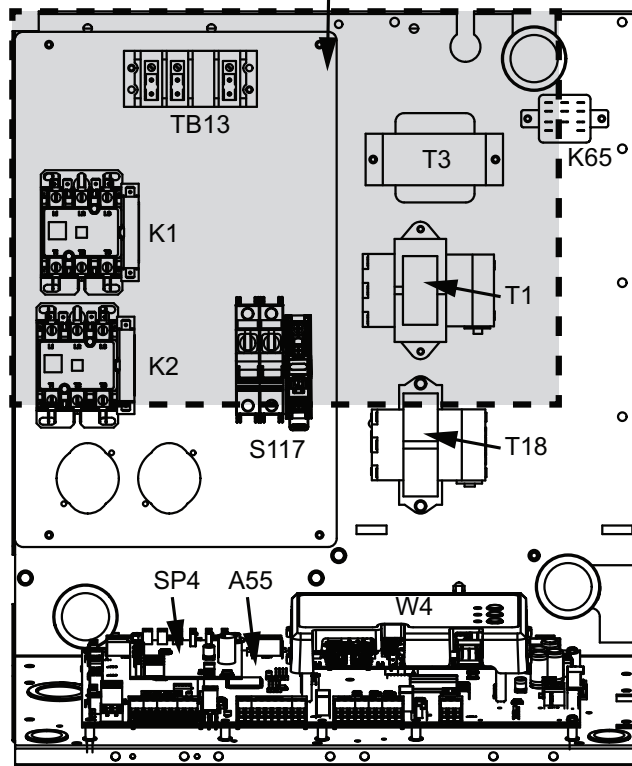

Figure 3
All use a single line voltage to 24VAC transformer mounted in the control box. Transformer supplies power to control circuits in the unit. The transformer is rated at 92VA and is protected by a 6 amp circuit breaker (CB8). The 208/230 (Y) voltage transformers use primary voltage taps as shown in Figure 3, while 460 (G) and 575 (J) voltage transformers use a single primary voltage tap.